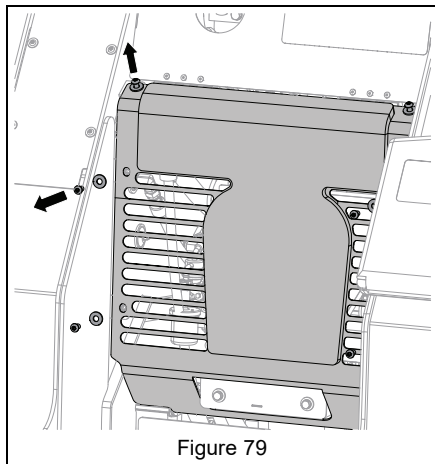

Figure 79
2. Remove four screws and washers securing operator guard to unit. Loosen two screws at top of guard. See Figure 79.